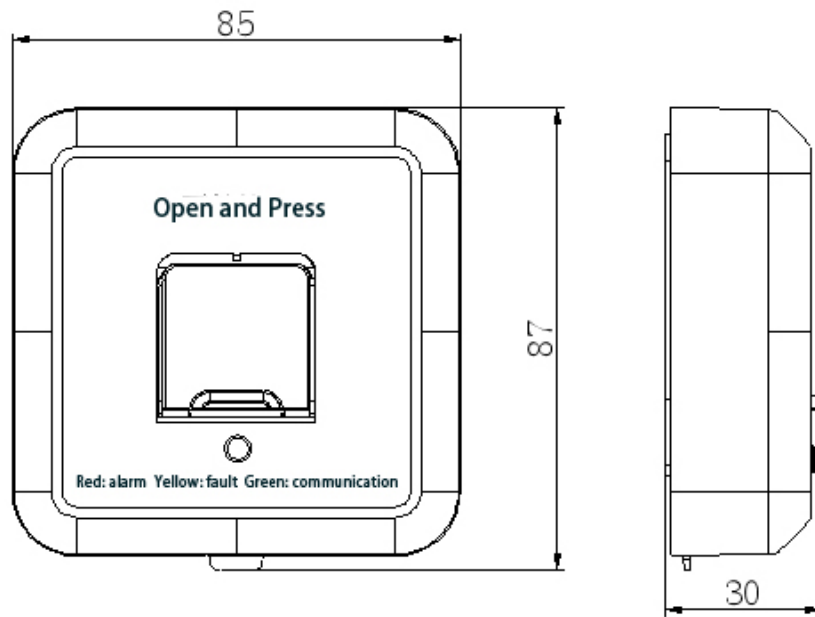

Fig 1 Outline diagram for wireless manual call point
4.1 Outline dimension of wireless alarm button as shown in Fig. 1 (unit : mm):